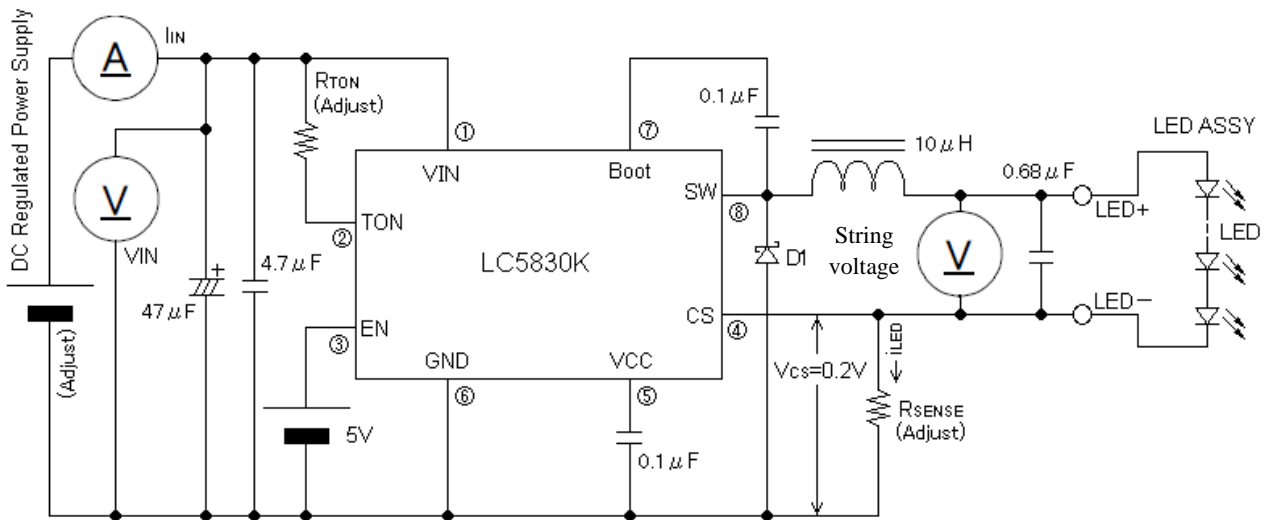

fig2. Measurement circuit of Power dissipation
* It is based on the measurement circuit of the fig2.